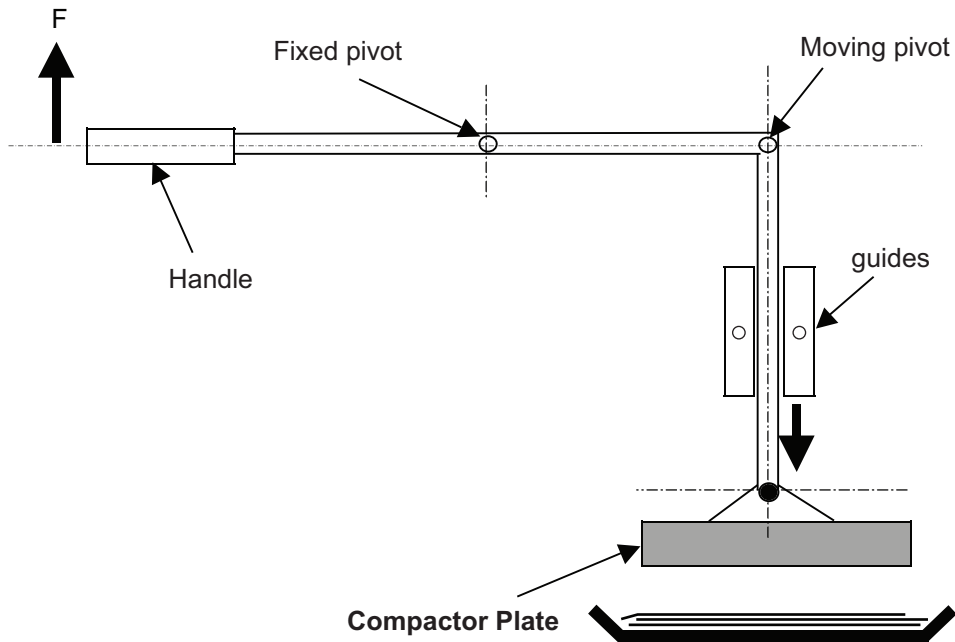

Fig. 3(a)
- 3 (a) **Fig. 3(a)** shows a linkage which forms part of a prototype manual compactor for recycled waste. A force  $F$  is applied as shown which enables the compactor plate to press on the waste.